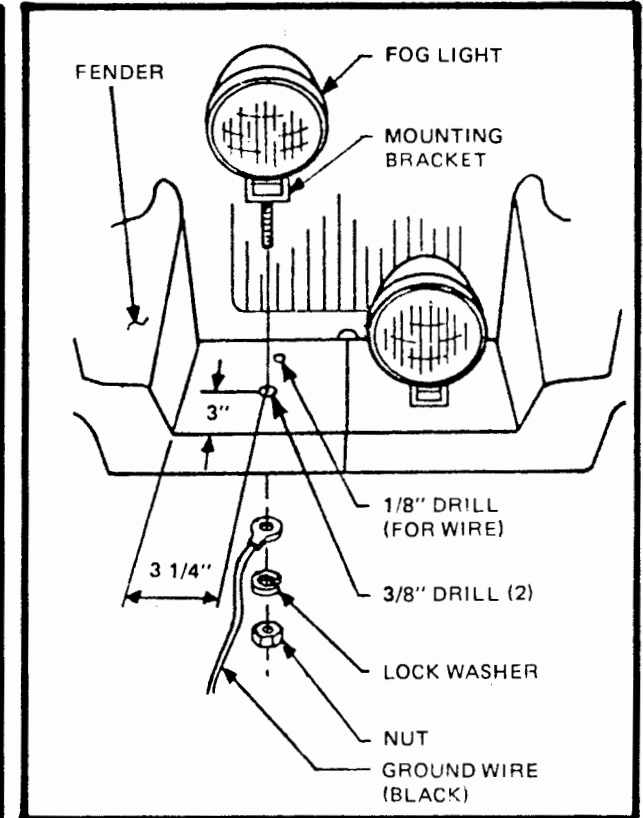

Figure 60
- Locate each fog light approximately as shown. (Figure 60) Drill a 3/8" hole at the marked location. Position fog lights in the holes. Drill a 1/8" hole directly behind the mounting bracket and push the attached wire through. Where the mounting bolt projects through the fiberglass, attach a 2 foot piece of black wire and secure the foglight in position using the hardware supplied. Run the black ground wire under the radiator shell and secure to the frame.